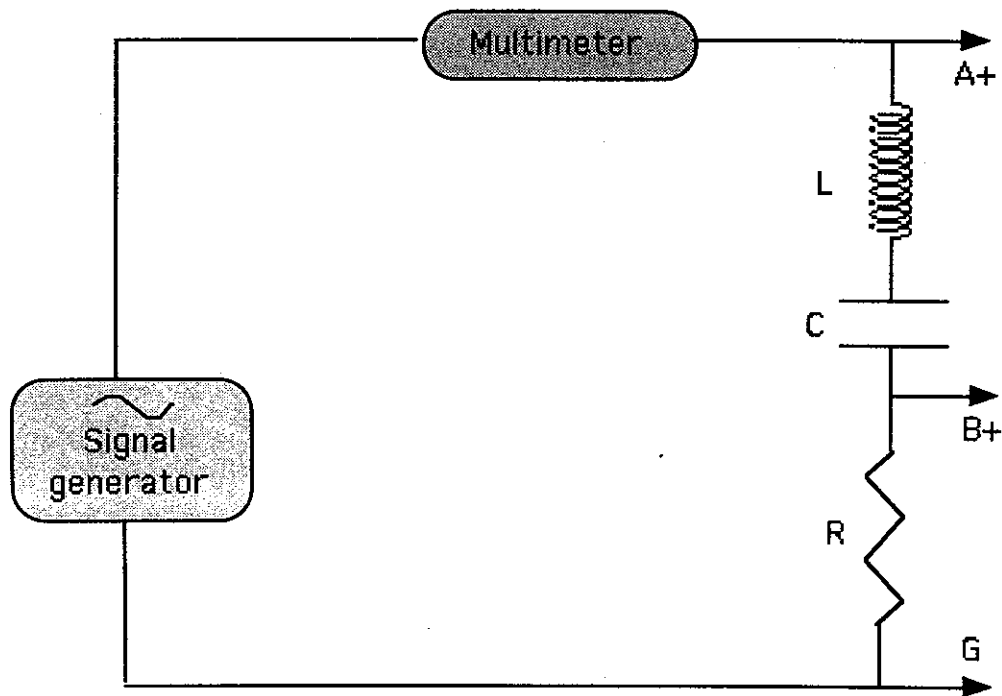

Fig. 10.3b
- (j) Make the connections as shown in Fig. 10.3b. Adjust the volt/div (A and B) and time/div, if necessary.